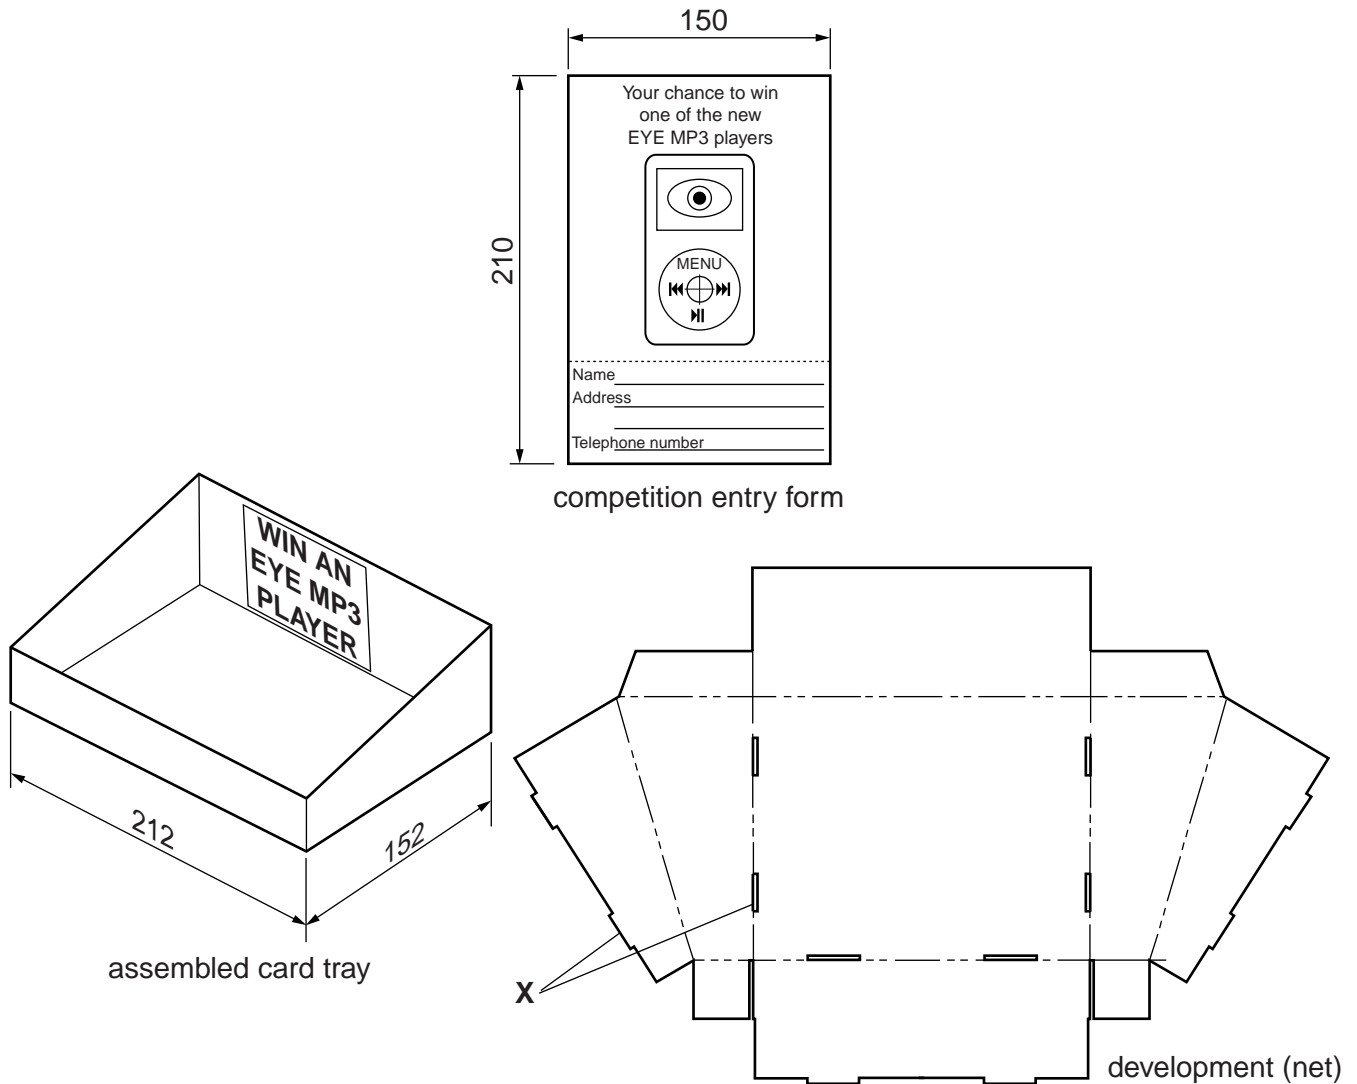

Fig. 4
- 4 Fig. 4 shows a competition entry form and a design for a card tray to hold the forms. Trays full of forms will be located in shops selling the MP3 player.